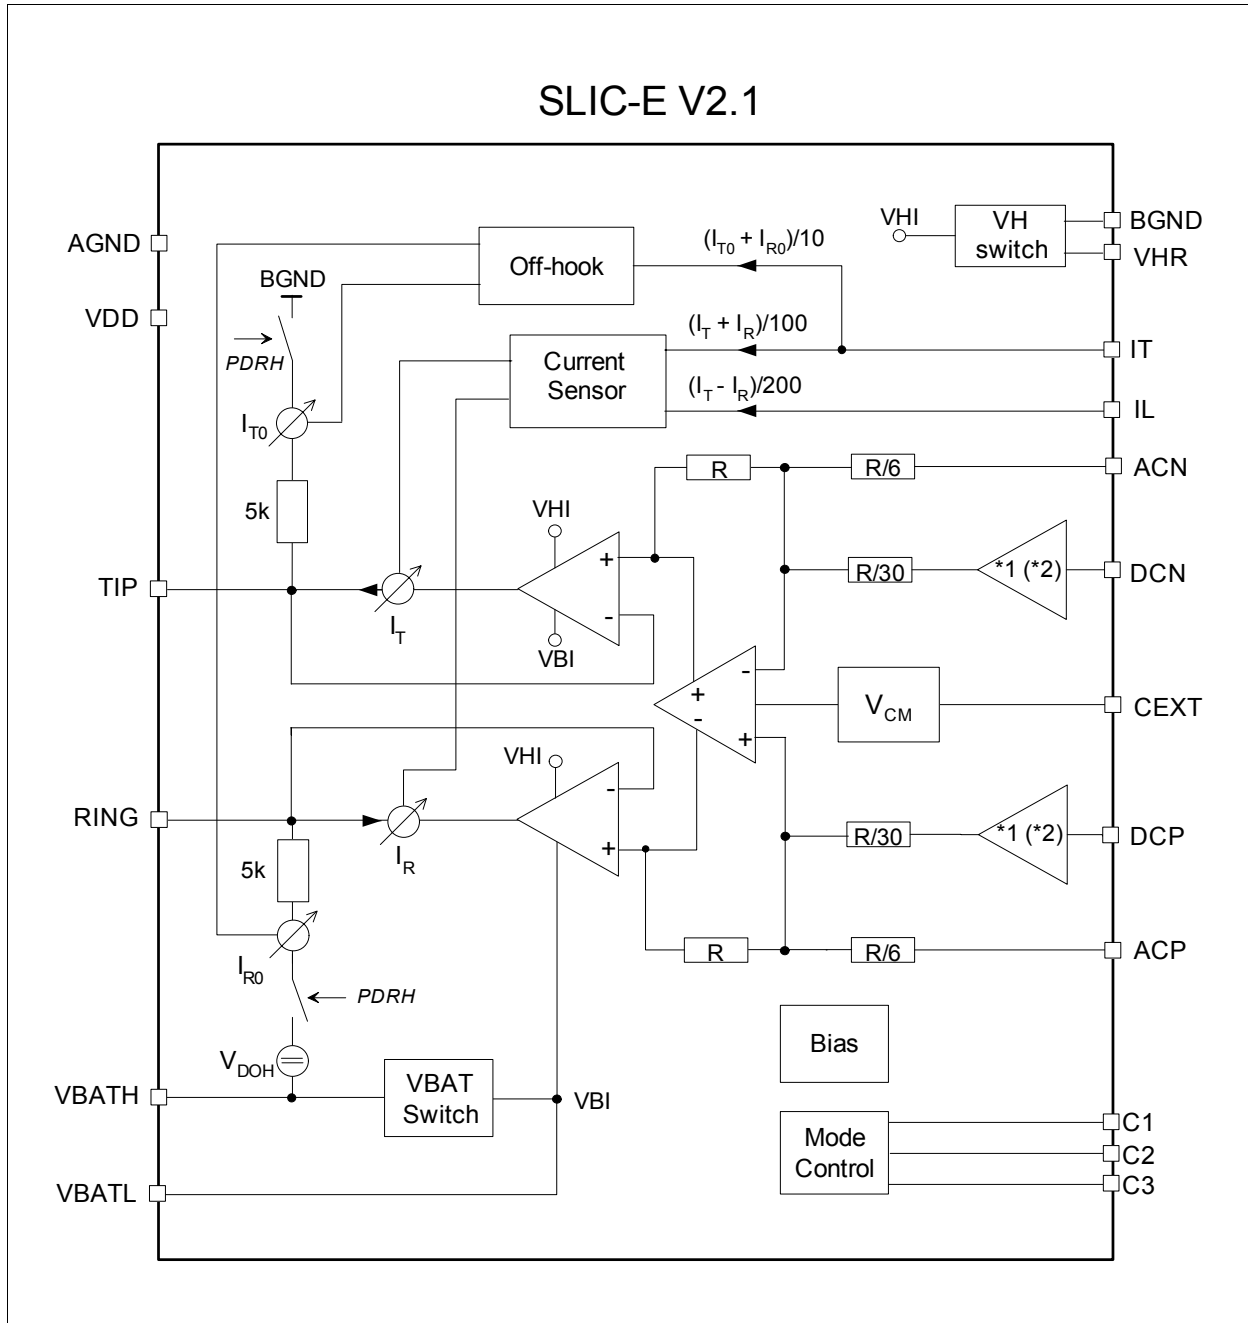

Figure 6 Block Diagram
A functional block diagram is shown in **Figure 6**.
Power consumption is reduced to a minimum by switching completely off all voice transmission functions. To allow off-hook detection, PDRH provides a connection of 5 k Ω each from TIP to BGND and RING to VBATH, respectively, while the output buffers show high impedance (see Figure 6). The current through these resistors is sensed, scaled by 1/5 and transferred to the IT pin for off-hook supervision.
3) Due to the changed battery switch concept (see Figure 6), the VBATL series diode must not be shared between different channels; one diode per channel is mandatory (also for applications with TSLIC).